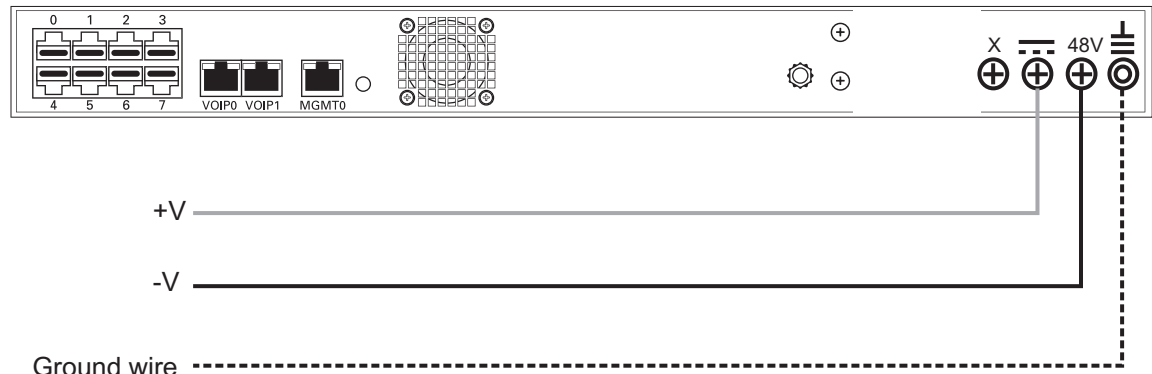

Figure 2.7 TMG800 DC Wiring Diagram
Note Two types of cable with different coloring are available. Refer to figure 2.7 on page 17 for the appropriate wiring information.
1. Connect a ground wire to the ground plug located at the rear of the TMG800, as shown in figure 2.7 on page 17.